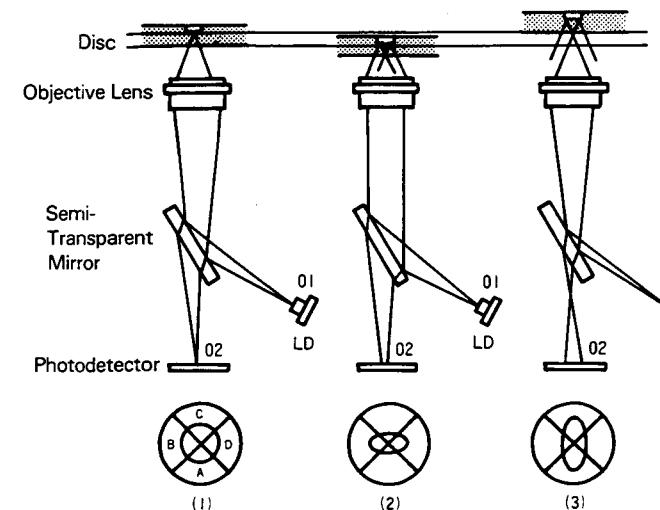
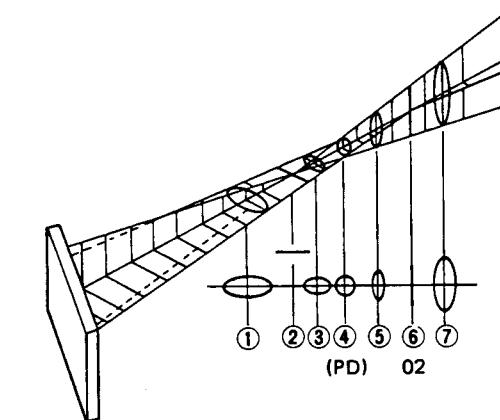
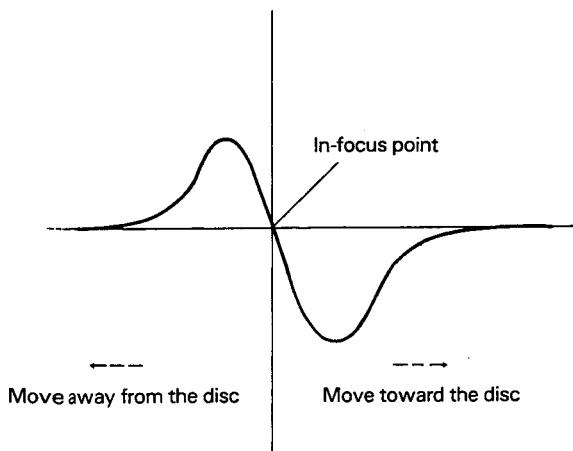

Fig. 12-3 Beam Focus on the Disc Surface
Fig. 12-4 Semi-Transparent Mirror
Fig. 12-5 The S-Shaped Curve
Fig. 12-3 shows how focus detection works. In (1), the light reflecting back through the objective lens forms a circle which touches all four photodetectors (labeled A through D) equally and signifies that the disc is in focus. The reflected pattern on the photodetectors forms an oval on the four photodetectors when there is a focus error. In (2), the disc is too close to the lens and in (3), the disc is too far. (The diffraction grating has been omitted from the figure for simplicity sake since it is not directly related to the focus signal and correction process.)
Fig. 12-4 displays the optical characteristics of the semi-transparent mirror. The lens affects only the vertical direction of the figures and not the lateral direction.
① through ⑦ in Fig. 12-4 show the beam shapes at varying distances from the semi-transparent mirror. Between the straight lines ② and ⑥ is the perfect circle ④. ⑥ corresponds to point (2) in Fig. 12-3. In order to make Fig. 12-4 coincide with Fig. 12-3 (1) to yield a circular beam shape, the photodetector must be set at ④. The beam shape in Fig. 12-3 (2) corresponds to a photodetector position in 12-4 that is relatively closer to the semi-transparent mirror, at about ③, with a horizontally elongated
gated oval shaped beam. Conversely, Fig. 12-3 (3) corresponds to a photodetector position at around ⑤ with a vertically elongated oval.
The possible beam shapes that hit the photodetector are shown in Fig. 12-3. The focus signal is derived by simple arithmetic based on the signals from the four photodetectors: $(A + C) - (B + D)$.
When the objective lens is too near or far from the disc track surface most of the light does not reflect back to the photodetector. When the light that reflects back to the photodetector hits each of the four photodetectors uniformly, the focus signal is 0. When the objective lens moves too far from the disc surface it reflects a vertically elongated oval beam pattern like that of ⑦ in Fig. 12-4 on the photodetectors. In terms of the arithmetic for the focus signal, $(A + C) > (B + D)$ and the focus signal is a plus figure. As the lens moves closer to the disc to correct focus, the beam shape reaches its peak (a vertical line) at ⑥ and the lens continues to move away from the disc surface until $(A + C) - (B + D) = 0$ and the beam reflects a perfect circle on the photodetectors. Conversely, when the objective lens is too close to disc surface, a horizontally elongated oval beam will fall on the photodetector. In terms of the focus signal $(A + C) < (B + D)$ is a minus figure. As the objective lens moves away from the disc, it passes the horizontal line peak at ② and continues until the focus signal is 0. Fig. 12-5 graphs the typical S-shaped curve derived from the $(A + C) - (B + D)$ focus signal.